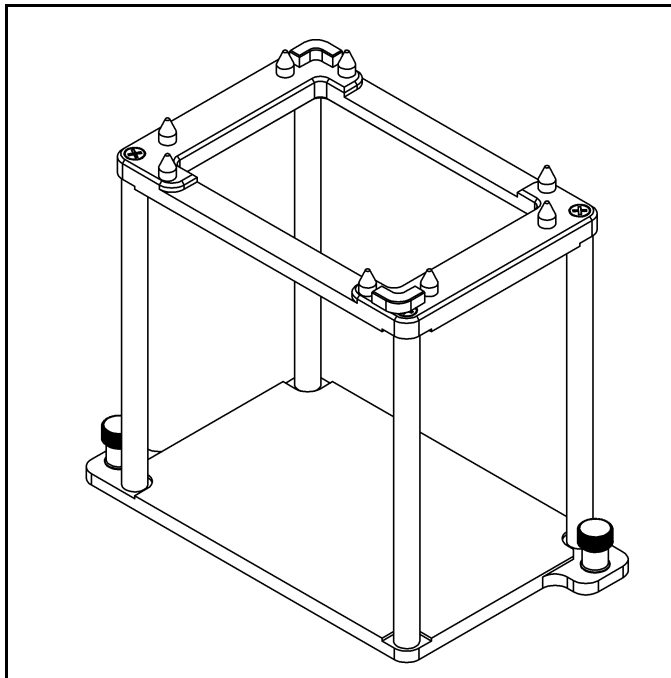

Figure 1-2. Example of a passive ALP
- *Passive ALPs* hold labware in place or act as receptacles for method by-products or consumables (Figure 1-2).